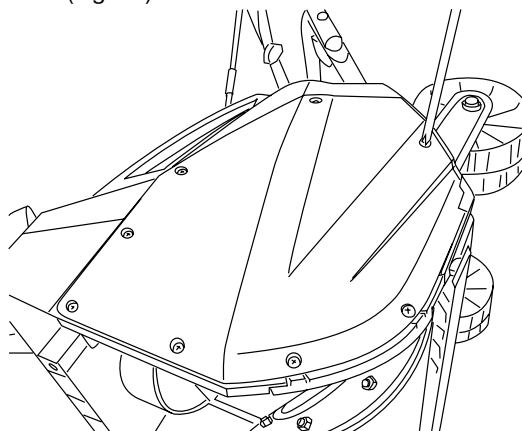

Figure 27
1. Remove the screws from the left panel of the snow thrower (Fig. 27).